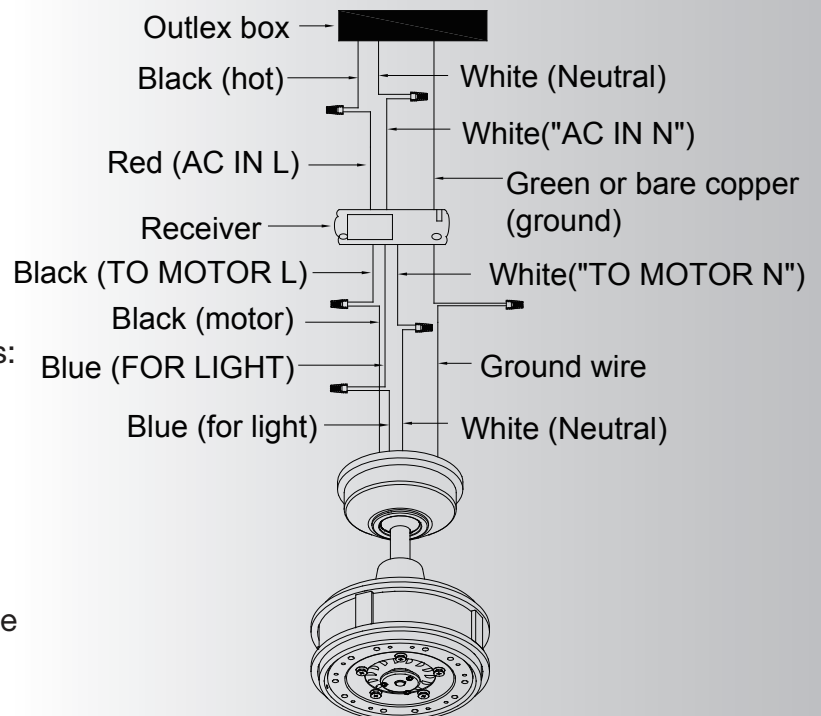

Fig. 14
Step 2. Motor to Receiver Electrical Connections: Connect the BLACK wire from the fan to BLACK wire marked "TO MOTOT L" from the receiver. Connect the WHITE wire from the fan to the WHITE wire marked "TO MOTOR N" from the receiver. Connect the BLUE wire from the fan to the BLUE wire marked "FOR LIGHT " from the receiver. Secure all the wire connections with the plastic wire nuts provided. (Fig. 14)
Step 3. Remote Receiver to Outlet Box Electrical Connections: Connect the BLACK (hot) wire from the ceiling to the RED wire marked “AC in L” from the receiver . Connect the WHITE (neutral) wire from the ceiling to the WHITE wire marked “ AC in N” from the Receiver . Secure the wire connections with the plastic wire nuts provided . (Fig. 14)
Step 4. If your outlet box has a ground wire (green or bare copper) connect it to the fan ground wires : otherwise connect the hanging bracket ground wire to the mounting bracket. Secure the wire connection with a plastic nut provided. After connecting the wires, spread them apart so that the green and white wires are on one side of the outlet box and black and blue wires are on the other side. (Fig. 14)